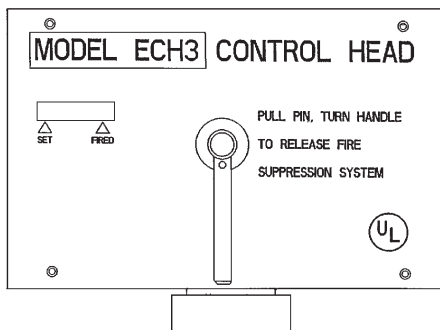

FIGURE 6
The Model ECH3 electric control head is an electrically operated control head which can be connected to the A-15/25/35/50/70 tank valve. This control head will support an electric thermal detection system, a remote mechanical pull station (Model RPS-M), and an electric gas shut-off valve. It will not support a fusible link detection system. A micro switch (Model MS-DPDT) is included. The Model ECH3 control head is available in both 120 VAC (Model ECH3-120) and 24 VDC (Model ECH3-24). It is equipped with a local manual control handle that allows for mechanical system actuation. Operation of the local manual control requires removing the pull pin and rotating the handle clockwise. The Model ECH3 control head can actuate a maximum of five (5) tanks with the 16 gram CO₂ cartridge. See Figure 6.